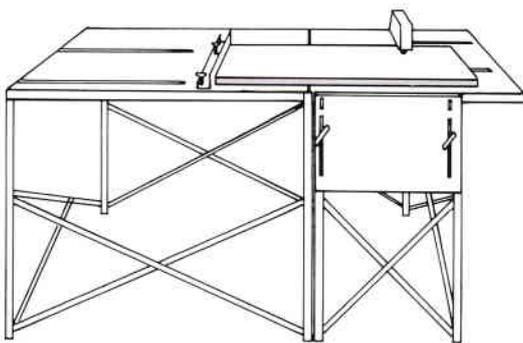

FIGURE 2
- Reset the rip fence to 600mm and cut the four large sides **C** and the two doors **D** to 385 x 600mm. **Figure 2** shows the procedure.